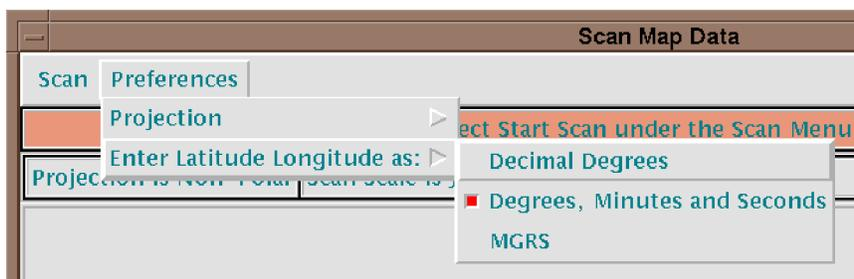

Fig. 52 — Latitude/longitude preferences for selecting control points
From the **Scan Map Data Window**, click on *Preferences*, then *Projection* (Fig. (51). Select *Polar* if the chart is based on a polar or conic projection (i.e., either the latitude or longitude lines are curved); select *Nonpolar* if the chart is based on a rectilinear projection (i.e., both latitude and longitude lines are straight). Click on *Preferences* again, then *Enter Latitude Longitude as:* (Fig. 52). Select a control point format: *Decimal Degrees*; *Degrees, Minutes and Seconds*; or *MGRS* (Military Grid Reference System).